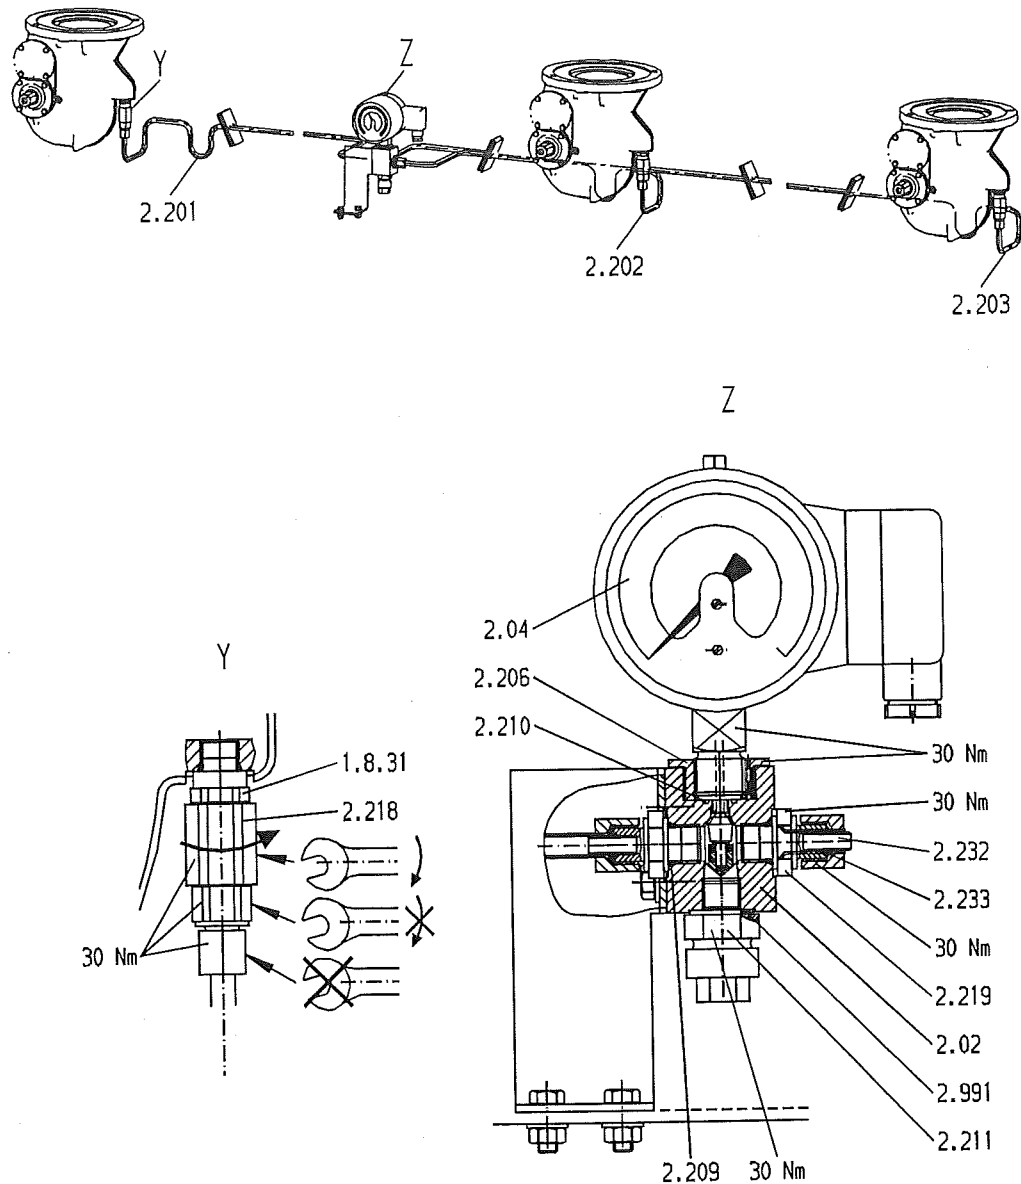

Figure A 6.2.1: Assembling the SF6 piping
- Connect the SF6 piping to all three pole columns and tighten to a torque of 30 Nm (Figure A 6.2.1).
- Check the SF6 piping joints for tightness, and if necessary retighten to a torque of 30 Nm (Figure A 6.2.1).